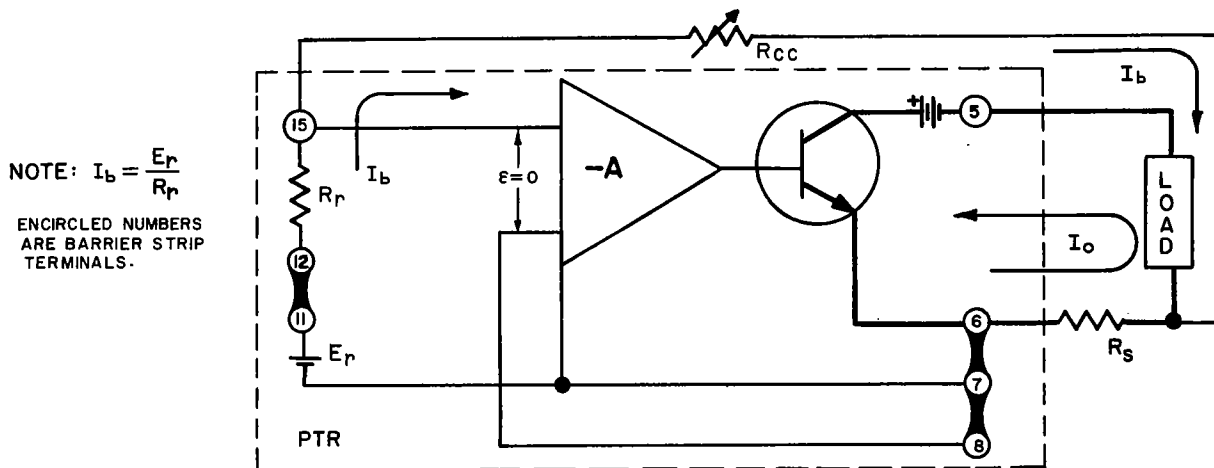

FIG. 3-9 EQUIVALENT DIAGRAM, PTR WITH EXTERNAL SENSING AND RESISTANCE CONTROL.
**NOTE:** This equation (Eq. 1) is derived from the equivalent diagram shown below (refer to FIG. 3-9) and is valid for the "zeroed" PTR.
3-44 The circuit shown in FIG. 3-9 is suitable for output currents from the rated maximum of the PTR down to about 10  $\mu$ A. The components for the circuitry are selected as described below:
- b) CONTROL CURRENT ( $I_b$ ). The internal zener voltage source of the PTR ( $E_T$  6.2V nominal) can deliver a maximum control current of 1.2 mA with its internal reference resistor ( $R_T$ ) connected as shown in FIG. 3-9. PTR models with suffix "R" are equipped with a calibrating control ( $R_{18}$ —1 K ohm) in series with  $R_T$ , which permits calibration of  $I_b$  to 1 mA. This " $I_b$  CAL" or calibration control can be added internally by the user (refer to Section V of this manual) or, a rheostat may be added externally, between terminals (11) and (12) on TB1. The standard (1 mA) control current ( $I_b$ ) may be reduced to smaller values as required, by connecting an external resistance between terminals (11) and (15). The required values are given in Table 3-1.